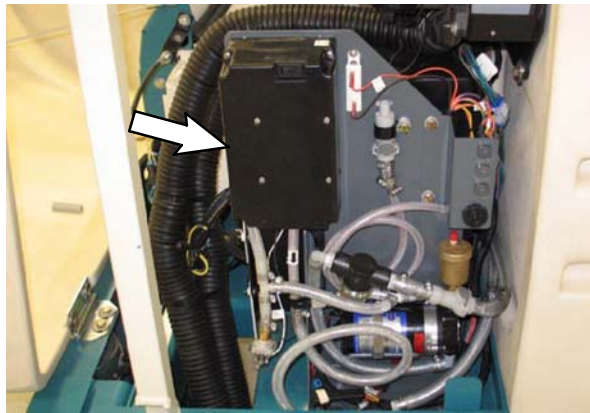

FIG. 14
25. Set the *ec-H2O* assembly into the machine and tighten the three M6 X 1.25 SEMS screws installed in the previous step. Refer to Fig. 14.